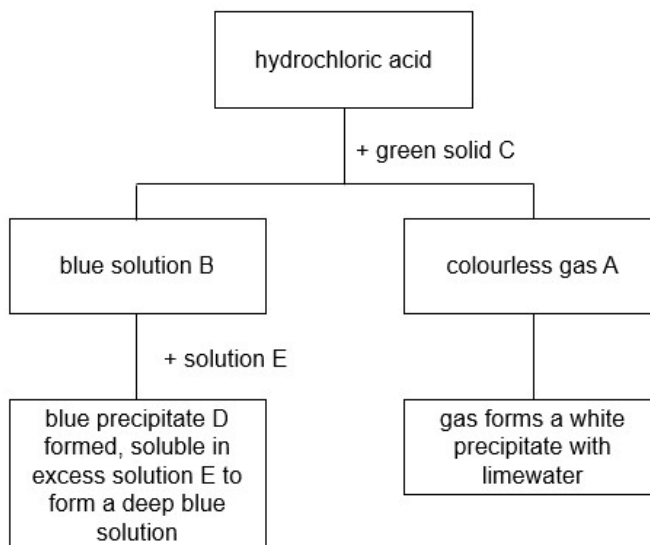

Fig. 7.1
- 7 A student carried out an experiment as shown in Fig. 7.1.